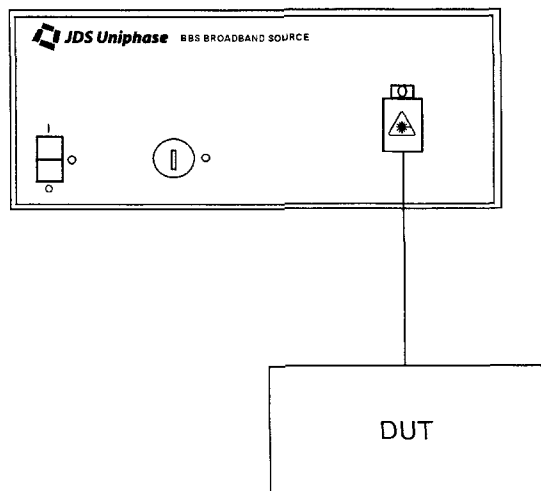

Figure 5: Setup
1. Ensure that the unit is turned off (O) and that the key switch on the front panel is set to the Disabled position.
3. Connect the DUT to the Output connector on the front panel via a suitable connectorized optical fiber (Figure 5). Ensure that APC connectors, if used, are mated to like connectors.